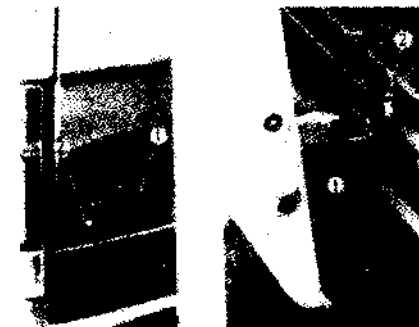

Fig. 4.1-28
- 2) Dismount the bolt for fixing lower roller arm assembly, pull the slide door backward to make slide hinge separate guide rail, dismount rear side slide door, see Fig. 4.1-28.